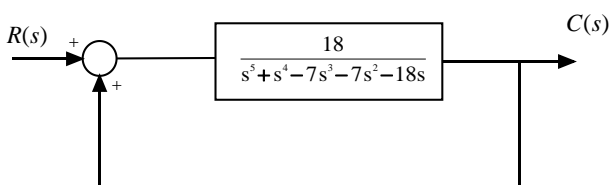

Fig.Q2A
**2A.** A unity feedback control system (with positive feedback) is shown in Fig Q2A. Using Routh-Hurwitz criterion determine how many poles of closed loop system that lie (i) in RH plane (ii) in LH plane (iii) on  $j\omega$  axis. Also comment on stability of system.